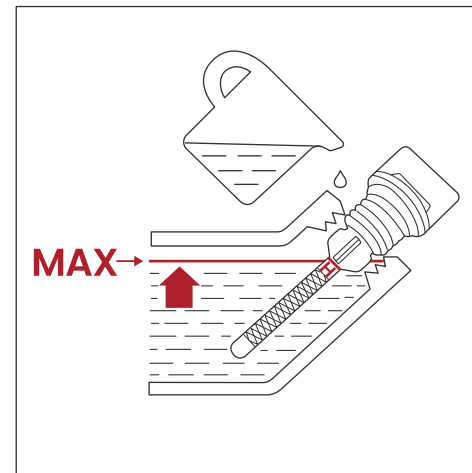

Fig.6
- 4 Check engine oil level before each use and add as needed (see Fig.6).